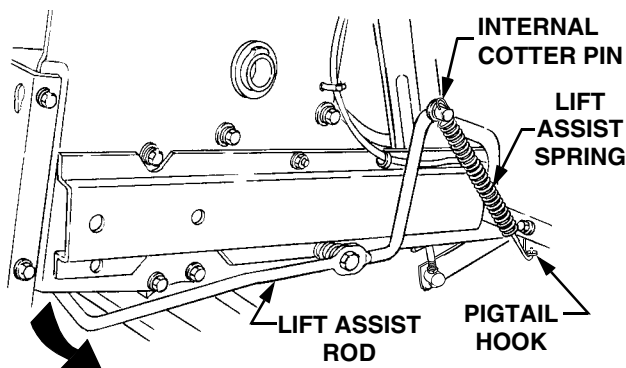

Figure 28
1. **If RH Lift Assist Spring Is Factory Installed.** From beneath the right rear fender, push the lift assist rod down and outward to release from the frame. Disengage the hook of the lift assist spring from the pigtail hook (See Figure 28).
- From underneath the fender on the right/rear side of the tractor frame, remove the internal cotter pin from the forward end of the rod. Refer to Figure 28.
- Slide the larger hook of the lift assist spring onto the forward end of the rod, and reinstall the internal cotter pin to capture the spring hook between the rod flange and the pin. Refer to Figure 28.